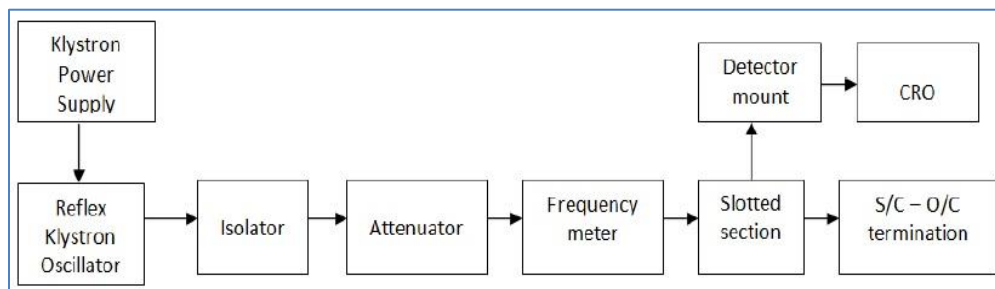

Figure 5.1: Measurement of VSWR
- 1 Measure the incident and reflected power. Connect a power meter or a directional coupler to measure the incident and reflected power as shown in the figure 5.1
1. Measure low and high VSWR using slotted section as shown in the figure 5.1